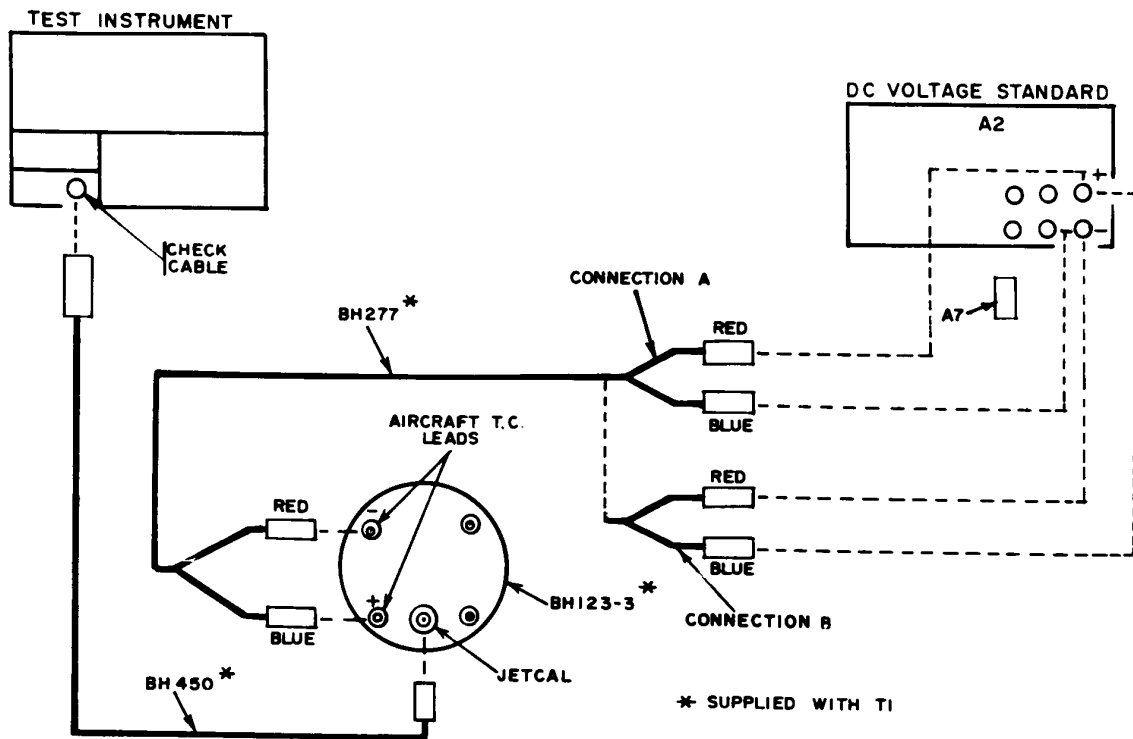
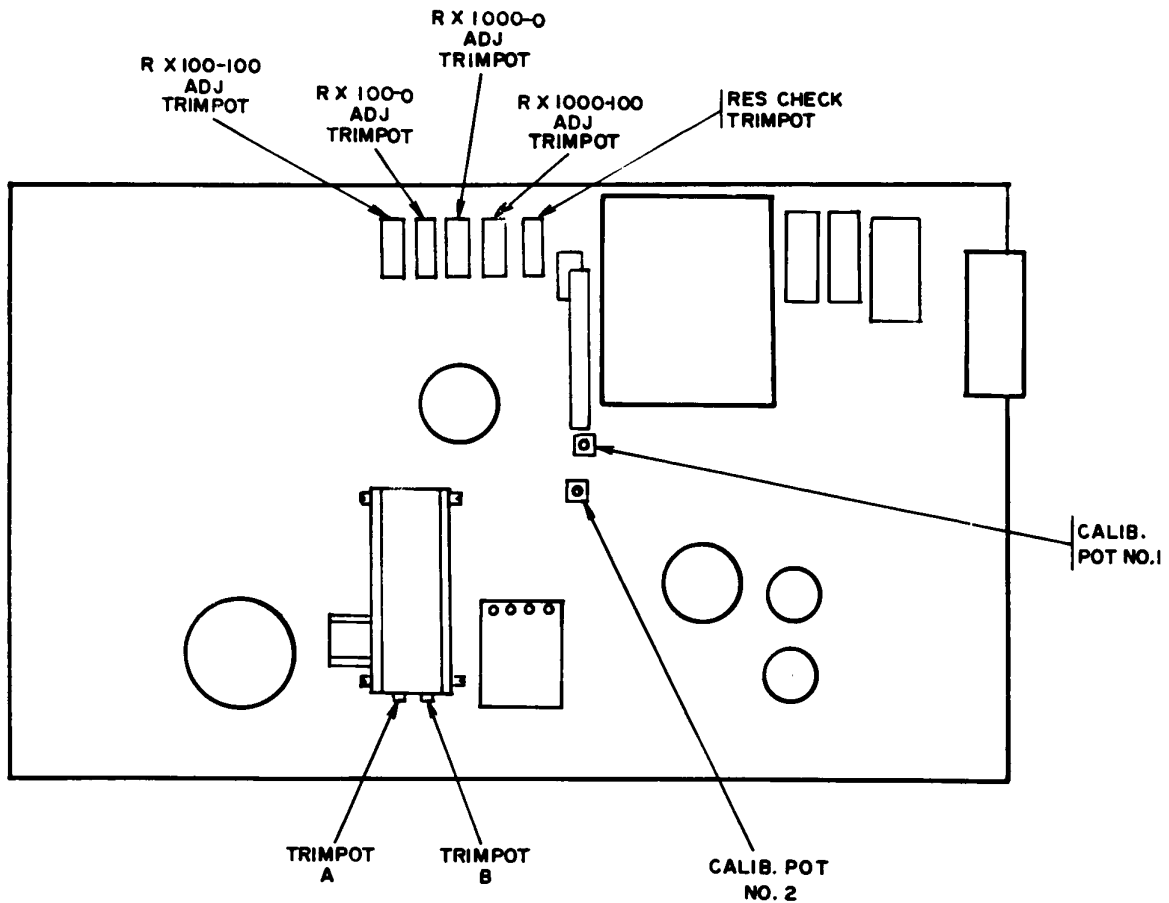
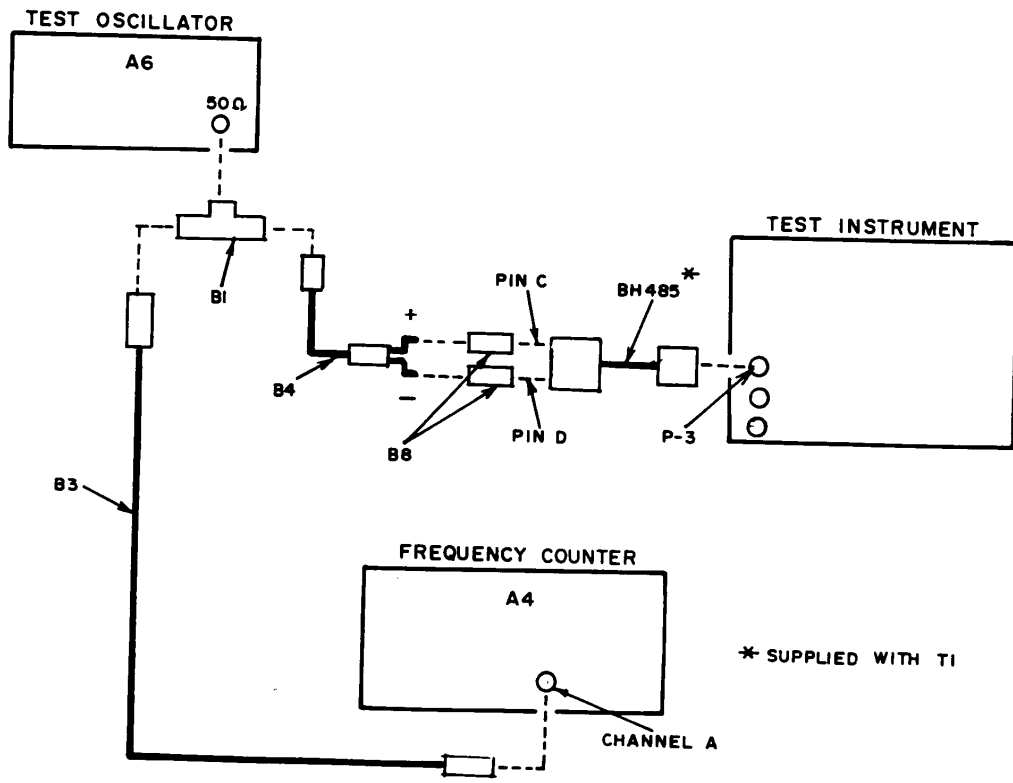

Figure 1. Potentiometer - equipment setup.
Figure 2. Adjustment locations -bottom view.
Figure 3. Rpm - equipment setup.
- (1) Connect equipment as shown in figure 1, connection A.
- (7) Set **SW-6** switch to **RANGE**.
- (8) Adjust °C control for 0 indication on **GALVO-1**. If TI °C dial does not indicate 0° ±1°, perform **b(1)** through (13) below.
- (9) Set **SW-6** switch to **MECH. ZERO**.
- (10) Connect equipment as shown in figure 1, connection B.
- (11) Adjust dc voltage standard output to 48.462 mV less value recorded in (6) above.
- (12) Adjust °C control until dial indicates 1190.
- (13) Set **SW-6** switch to **RANGE**.
- (14) Adjust °C control until **GALVO-1** indicates 0. If °C dial does not indicate between 1189 and 1191, perform **b(1)** through (13) below.
- (15) Set **SW-6** switch to **MECH. ZERO**.
- (16) Repeat technique of (11) through (14) above, using values listed in table 5. TI °C dial will indicate within limits specified.
- (1) Set **SW-6** switch to **MECH. ZERO**.
- (2) Connect equipment as shown in figure 1, connection A,
- (3) Adjust °C control for a 0-degree indication.
- (4) Repeat **a(6)** above.
- (5) Set **SW-6** switch to **RANGE**.
- (6) Adjust TRIMPOT B (fig. 2) until **GALVO-1** indicates 0.
- (7) Repeat (1) above.
- (8) Connect equipment as shows in figure 1, connection B.
- (9) Adjust °C control to 1000 dial indication
- (10) Adjust output of dc voltage standard to 41.269 mV, less millivolt value used in a(6) above.
- (11) Repeat (5) above.
- (12) Adjust TRIMPOT A (fig. 2) until **GALVO-1** indicates 0
- (13) Repeat (1) through (12) above until no further adjustments are required.
(1) Connect TI **INPUT RES. INSUL. P-2** to **HIGH** and **LOW** terminals of resistance standard (A5), using cable, resistance check adapter (BH-485 and BH823, P/o TI) and leads (B5 and B6).
(2) Set **SELECTOR SWITCH SW-1** to **RES**
(3) Set **SW-6** switch to **MECH. ZERO**.
(4) Adjust **GALVO-1 MECH. ZERO** for a 0 indication on **GALVO-1**.
(5) Adjust resistance standard for 4.21
(6) Set **RESISTANCE CHECK SW-3** switch to 4.21